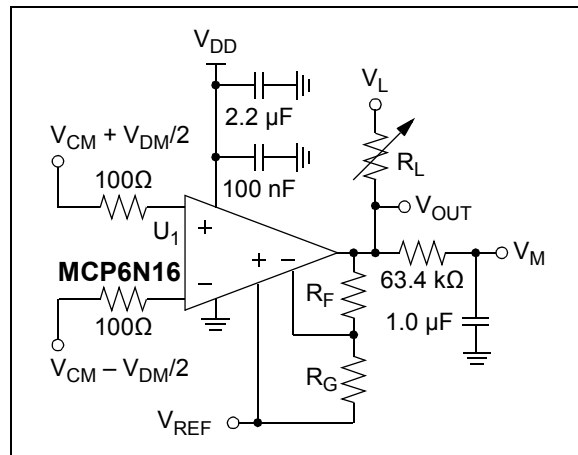

FIGURE 1-8: Simple Test Circuit for Differential Mode.
2: These parameters were characterized using the circuit in Figure 1-8. In Figures 2-75 and 2-76, there is an IMD tone at DC, a residual tone at 100 Hz and other IMD tones and clock tones.
- 2:** These parameters were characterized using the circuit in Figure 1-8. In Figures 2-75 and 2-76, there is an IMD tone at DC, a residual tone at 100 Hz and other IMD tones and clock tones.
Figure 1-8 is a simple circuit that can test the INA's differential gain error, nonlinearity and input voltage range (g_E , INL_{DM} , V_{DML} and V_{DMH} ; see Section 1.5.3 "Differential Gain Error and Nonlinearity"). R_F and R_G are 0.01% for accurate gain error measurements.
The circuit in Figure 1-8 can test the input's dynamic behavior (i.e., IMD, t_{STR} , t_{STL} , t_{IRC} , t_{IRD} and t_{OR}); measure the output at V_{OUT} , instead of at V_M .